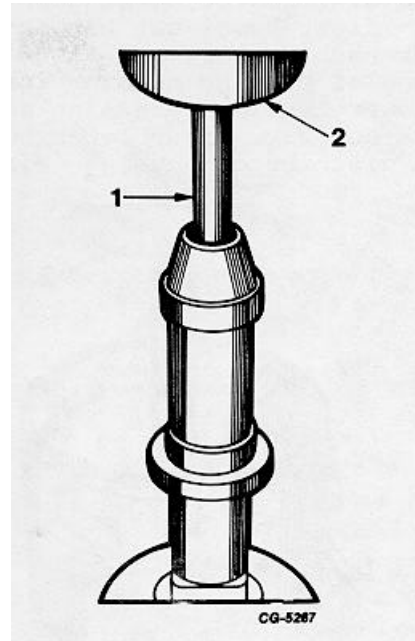

Fig. 26. Pressing Out Upper Bushing Using
4. Place distributor housing on press bed. Insert knock-out bar through lower bushing and allow it to rest on bushing remover already installed in upper bushing. Press upper bushing from housing by pressing against knock-out bar (Figure 26).